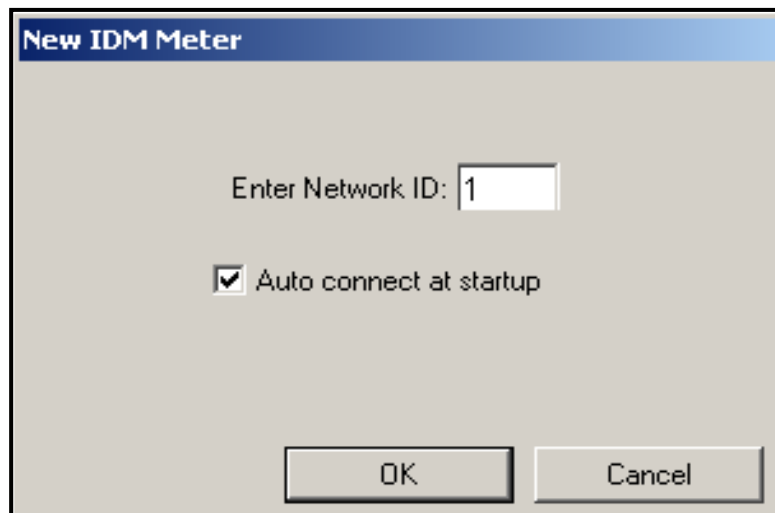

Figure 22: New IDM Meter Screen
4. The “New IDM Meter” screen (shown in Figure 22 below) opens. Enter the Network ID number for the meter, and click [OK].